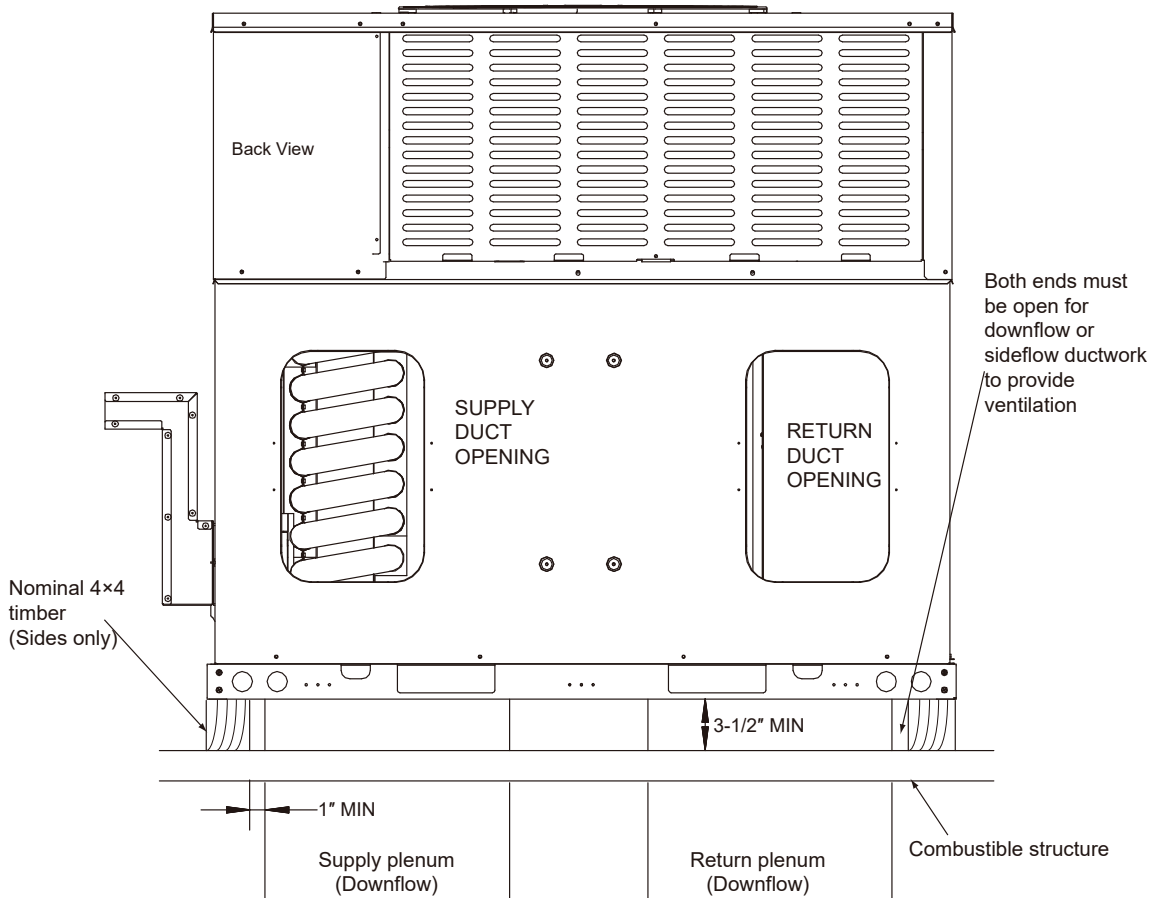
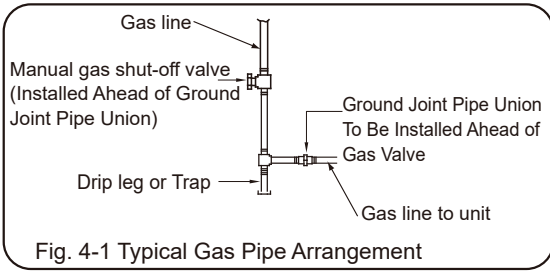

Fig. 3-1 Exception to non-combustible flooring requirement
Fig. 4-1 Typical Gas Pipe Arrangement
This unit must not be installed directly on wood flooring, Class A, Class B or Class C roof covering materials, or any other combustion structure except as specified in Fig.3-1. Failure to adhere to this warning can cause a fire or explosion resulting in property damage, personal injury or death.
Be sure to note supply and return openings. Refer to Fig. 3-1, Fig. 3-2, Fig. 3-3, Fig. 3-4, Fig. 3-5, Fig. 3-6, Fig. 3-7 and Fig. 4-1 for information concerning rear and bottom supply and return air duct openings.
2. Connect the gas line to the gas pipe inlet opening provided into the 1/2" inlet valve. See Fig. 4-1 for typical piping.